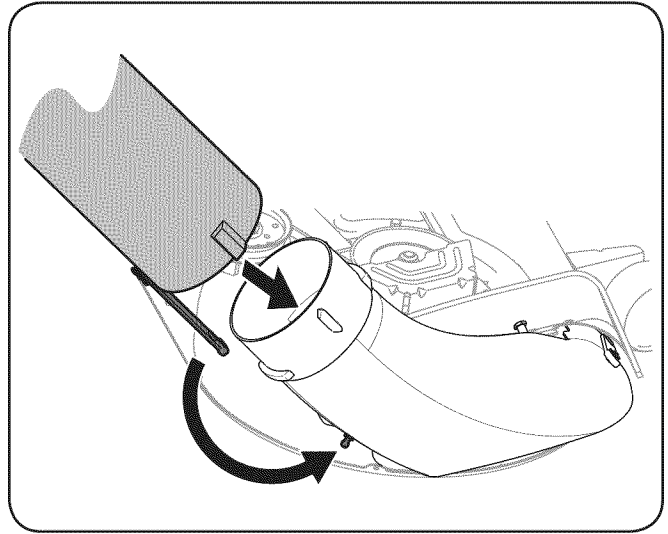

Figure 4-22
15. Install the chute tube extension onto the chute elbow by lining up the tabs and sliding the adapter over the chute elbow, as in Fig. 4-22. Secure the chute adapter by stretching the chute strap and hooking it onto the grass-catcher pin previously installed.